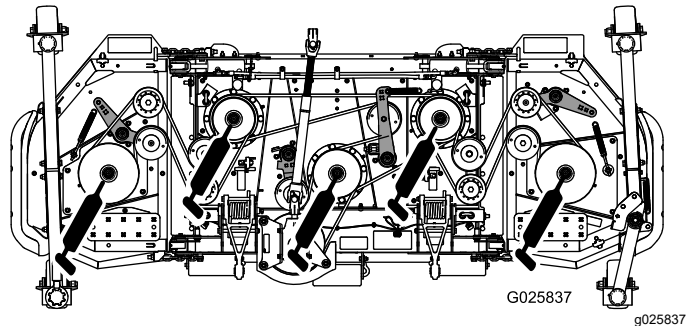

Figure 21
- Spindle shaft bearings (5) (Figure 21)